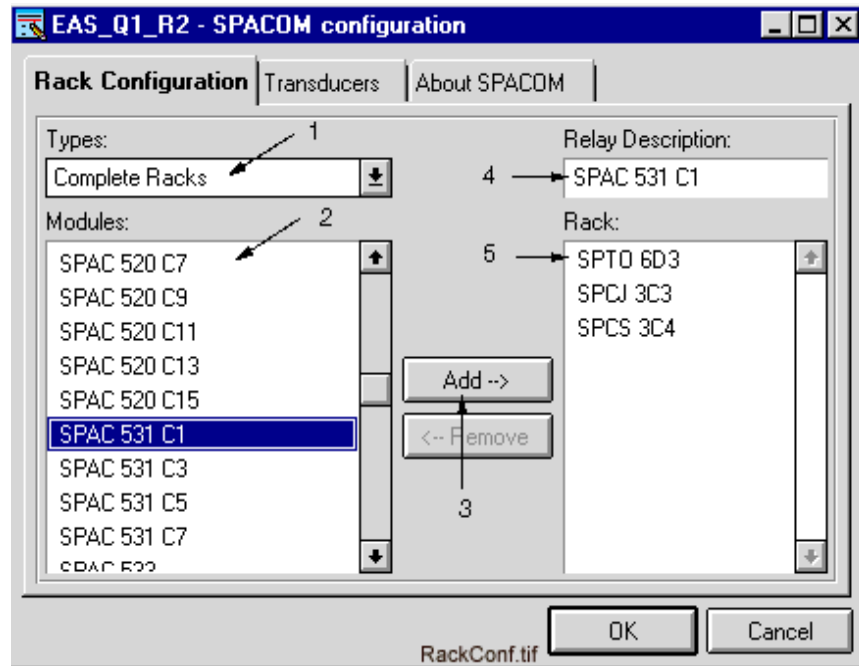

Fig. 2.3.3.1.-1 Rack Configuration dialog
By clicking the Attributes button in the General Object Attributes dialog, the configuration dialog containing three tabbed pages appears on the screen (see Fig. 2.3.3.1.-1).
The type of module to be configured can be selected in the drop-down combo in the upper left-hand corner of the Rack Configuration page (see Fig. 2.3.3.1.-1, item 1). This drop-down combo box contains a list of preconfigured relays or a list of different modules depending on which type has been selected. Possible types are presented in Table 2.3.3.1-1.